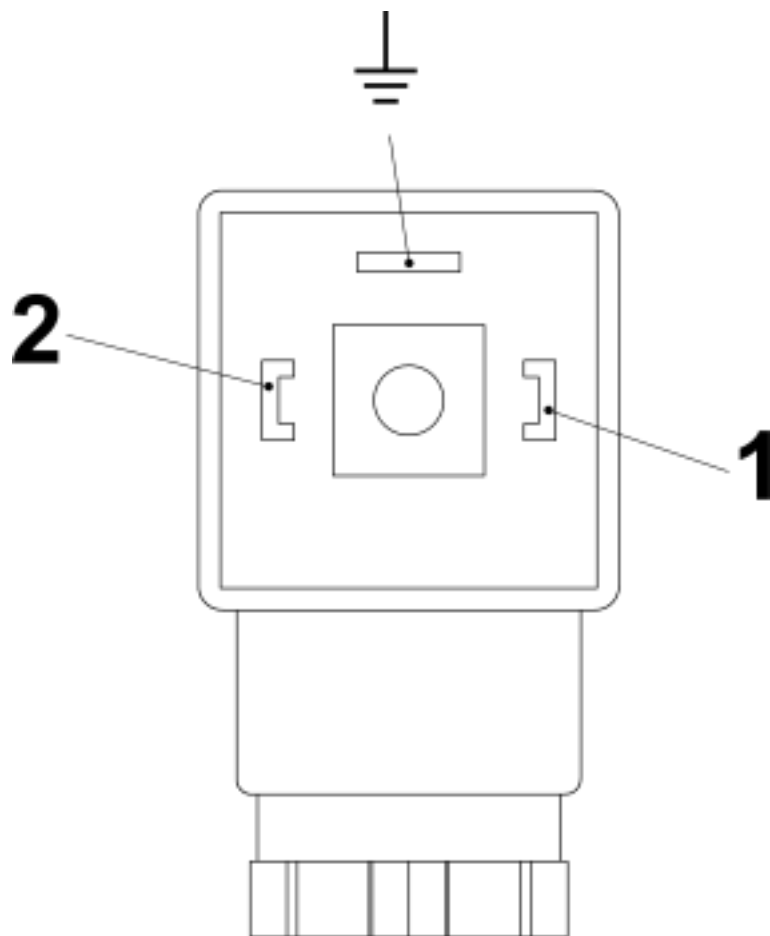
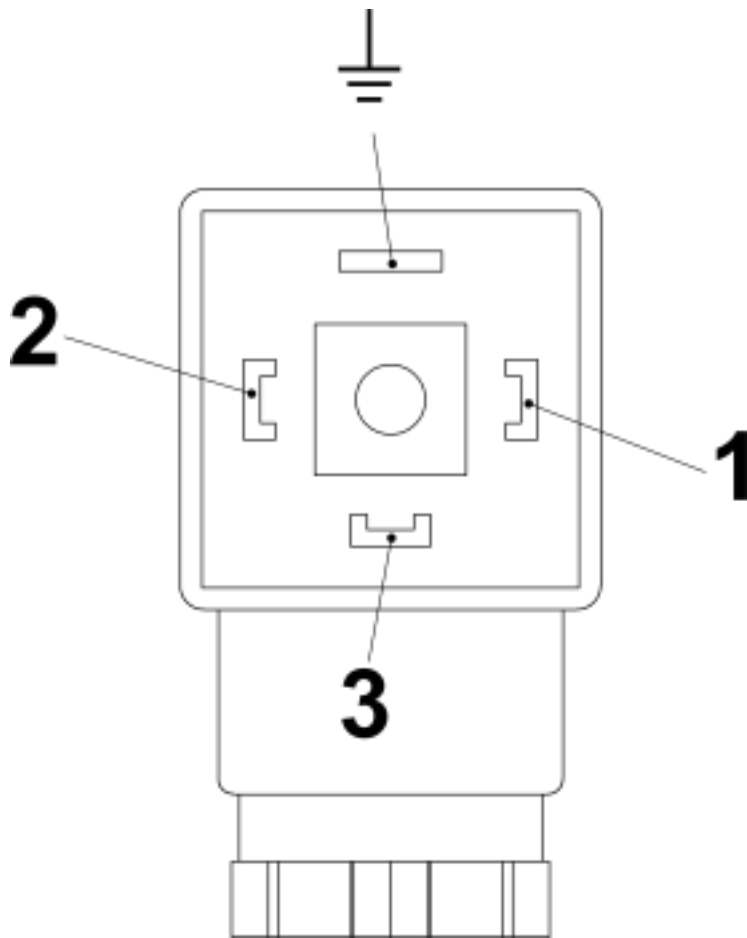

Fig. 31: Pin assignment, plug socket, normally-open contact (SG-30 with connector in compliance with EN175301-803)
Fig. 32: Pin assignment, plug socket, change-over contact (SG-30 with connector in compliance with EN175301-803)
6. ➤ Make the connections as shown in the connecting diagram (Fig. 31 and Fig. 32)